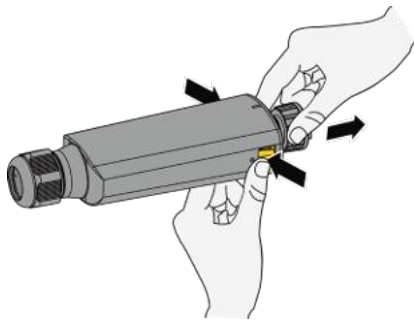

Fig. 45. Press in the release tabs on the communication device
1. Open the communication unit by pressing in the two release tabs on the housing (see Fig. 45).